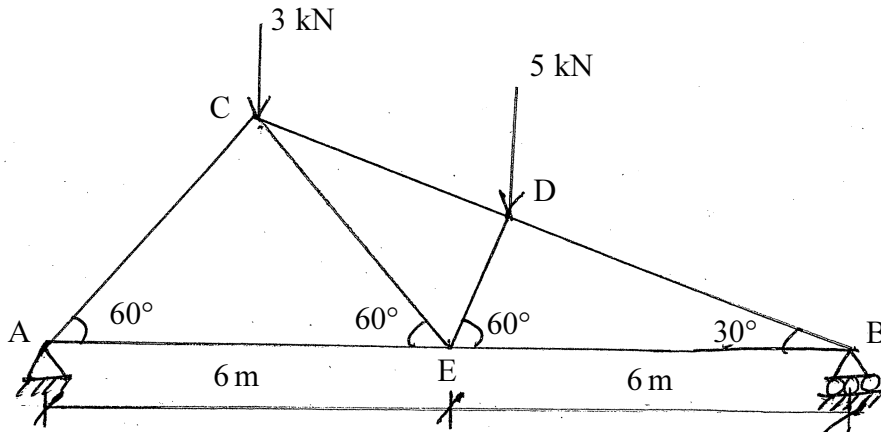

Figure 5
- c) Determine the nature and magnitude of forces in the members AC, CE, DE, DB of frame as shown in figure 5. Also find support reactions. Use method of joints. 8